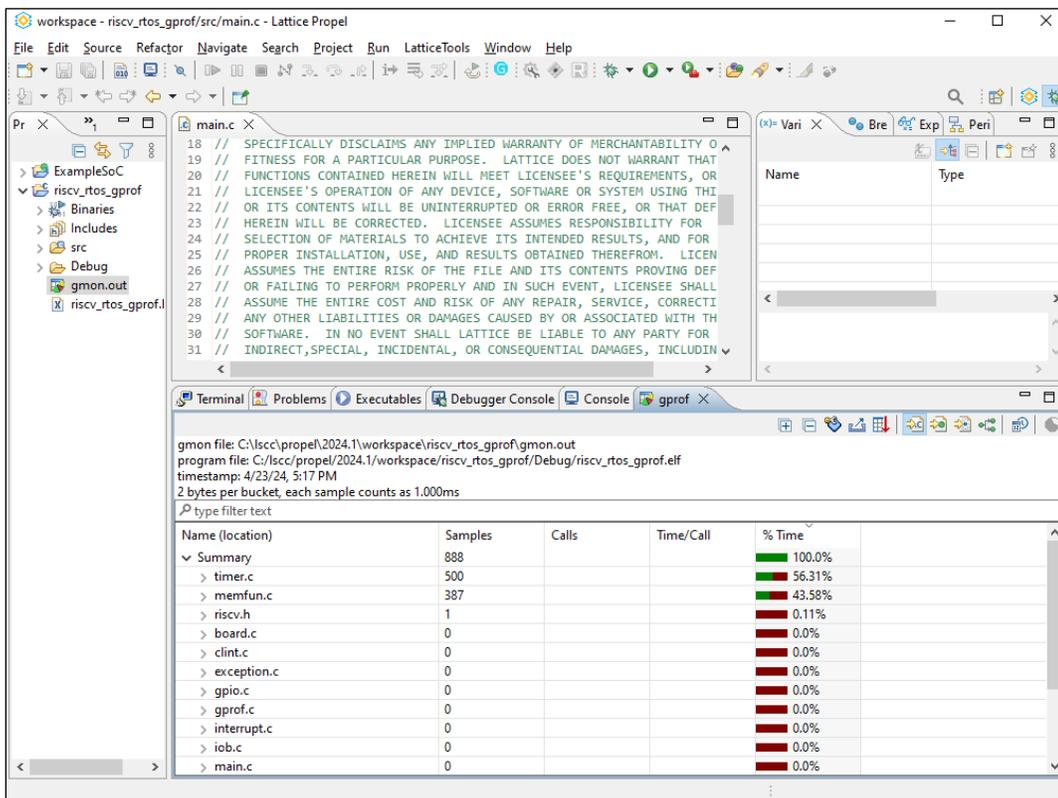

Figure 7.4. gprof Viewer
2. Wait for a few minutes. The gprof Viewer opens (Figure 7.4).